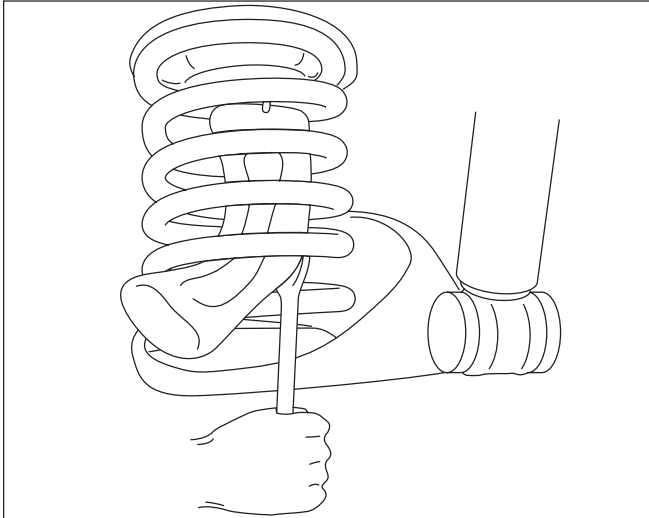

Figure 1
2. Air cylinders are shipped in the “as molded” shape. For ease of installation, remove the plastic cap from the barbed stem on the end of the cylinder. Push on the air cylinder to evacuate as much air as possible. The air bag may be rolled up toward the valve stem. Replace the cap on the stem to maintain the flattened shape (Figure 1).
3. Insert the flattened air cylinder into the coil spring through the lowest opening with the stem at the top (Figure 1).
4. Push the cylinder up within the coil by hand or with a blunt instrument such as a spoon-type tire iron (Figure 1).